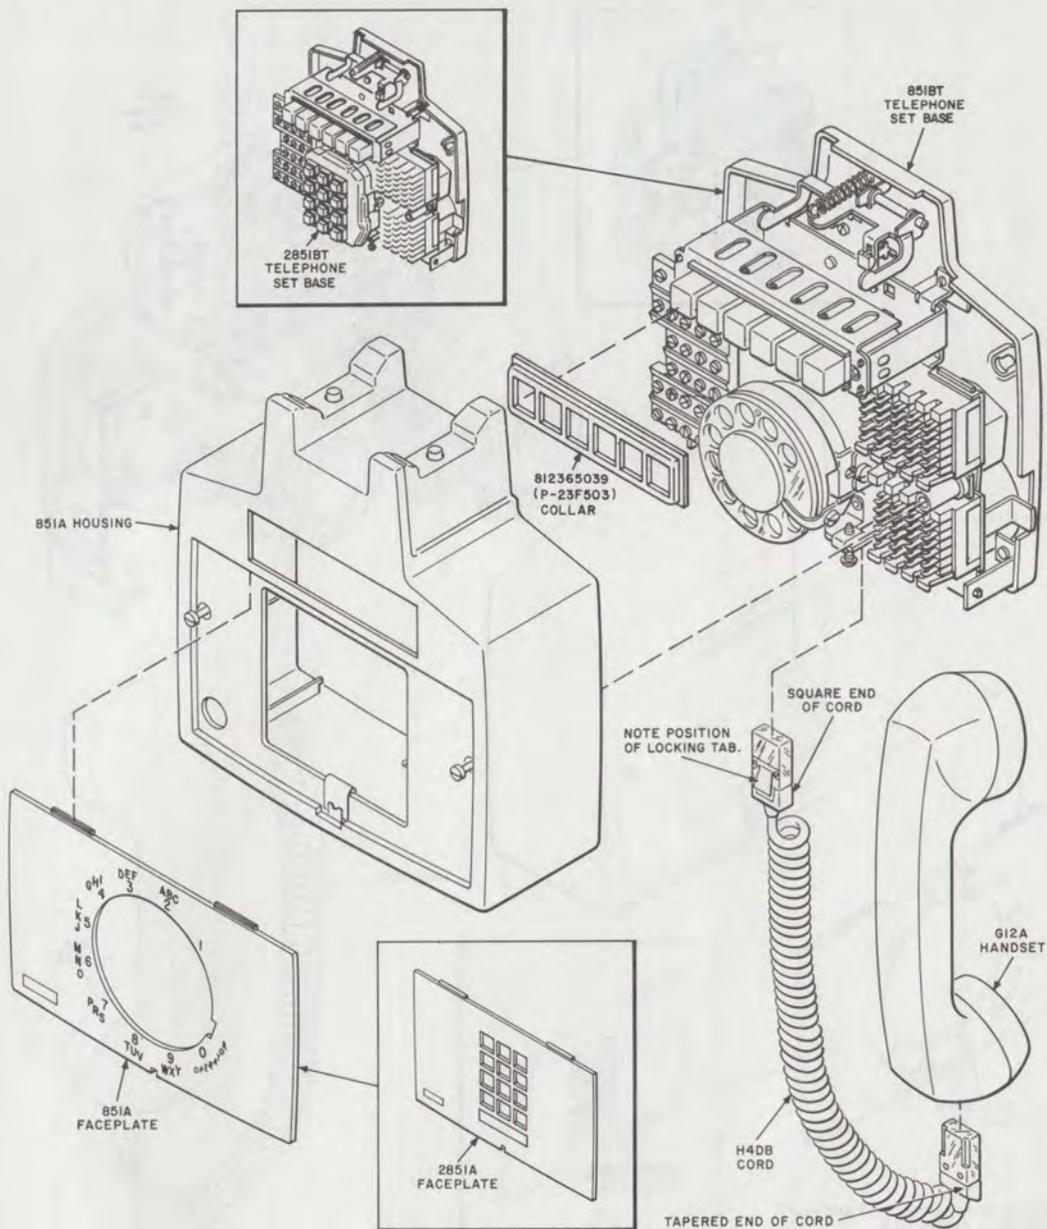

Fig. 19—Station Modular Arrangement, 851BT and 2851BT Telephone Set Showing Later 851A Housing and Base Plate
3.19 Install H4DB handset cord in later production models of 851- and 2851-type telephone sets by inserting the end of the cord having the tapered plug into the handset and the square end into jack on bottom of set. Spring locking tab should face away from wall at bottom of set (Fig. 19).